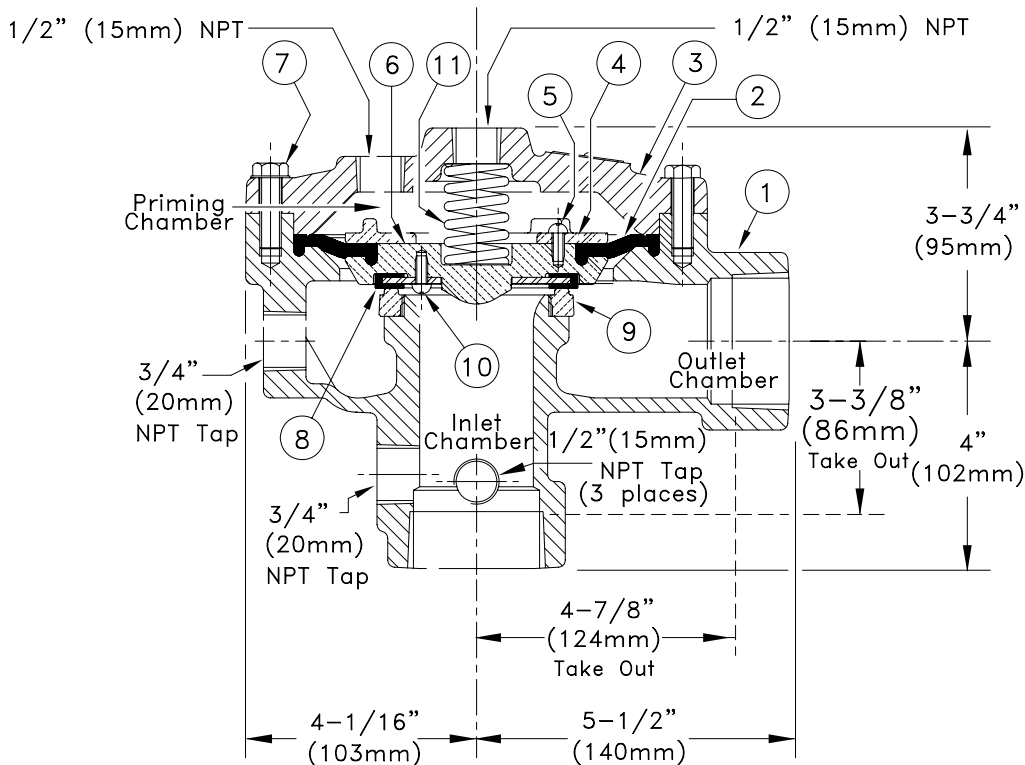

Figure 3 - Replacement Parts
- c. Remove the cover (3):
- i. Remove each of the cap screws (7) using a Socket Wrench with a 9/16" socket, and break the seal of the cover.
- ii. Lift the cover (3) off the valve body (1) and gently set it aside and lift the spring (11) from the clapper (6).
5. Installing Replacement Parts and Valve Reassembly (Refer to Figure 3.)
- i. Remove the old clapper assembly (2, 4, 5, 6, 7, 8, and 10) by placing a flat head screwdriver between the body (1) and the diaphragm rubber and then lifting the clapper assembly from valve body (1).
- ii. Inspect the seat (9).